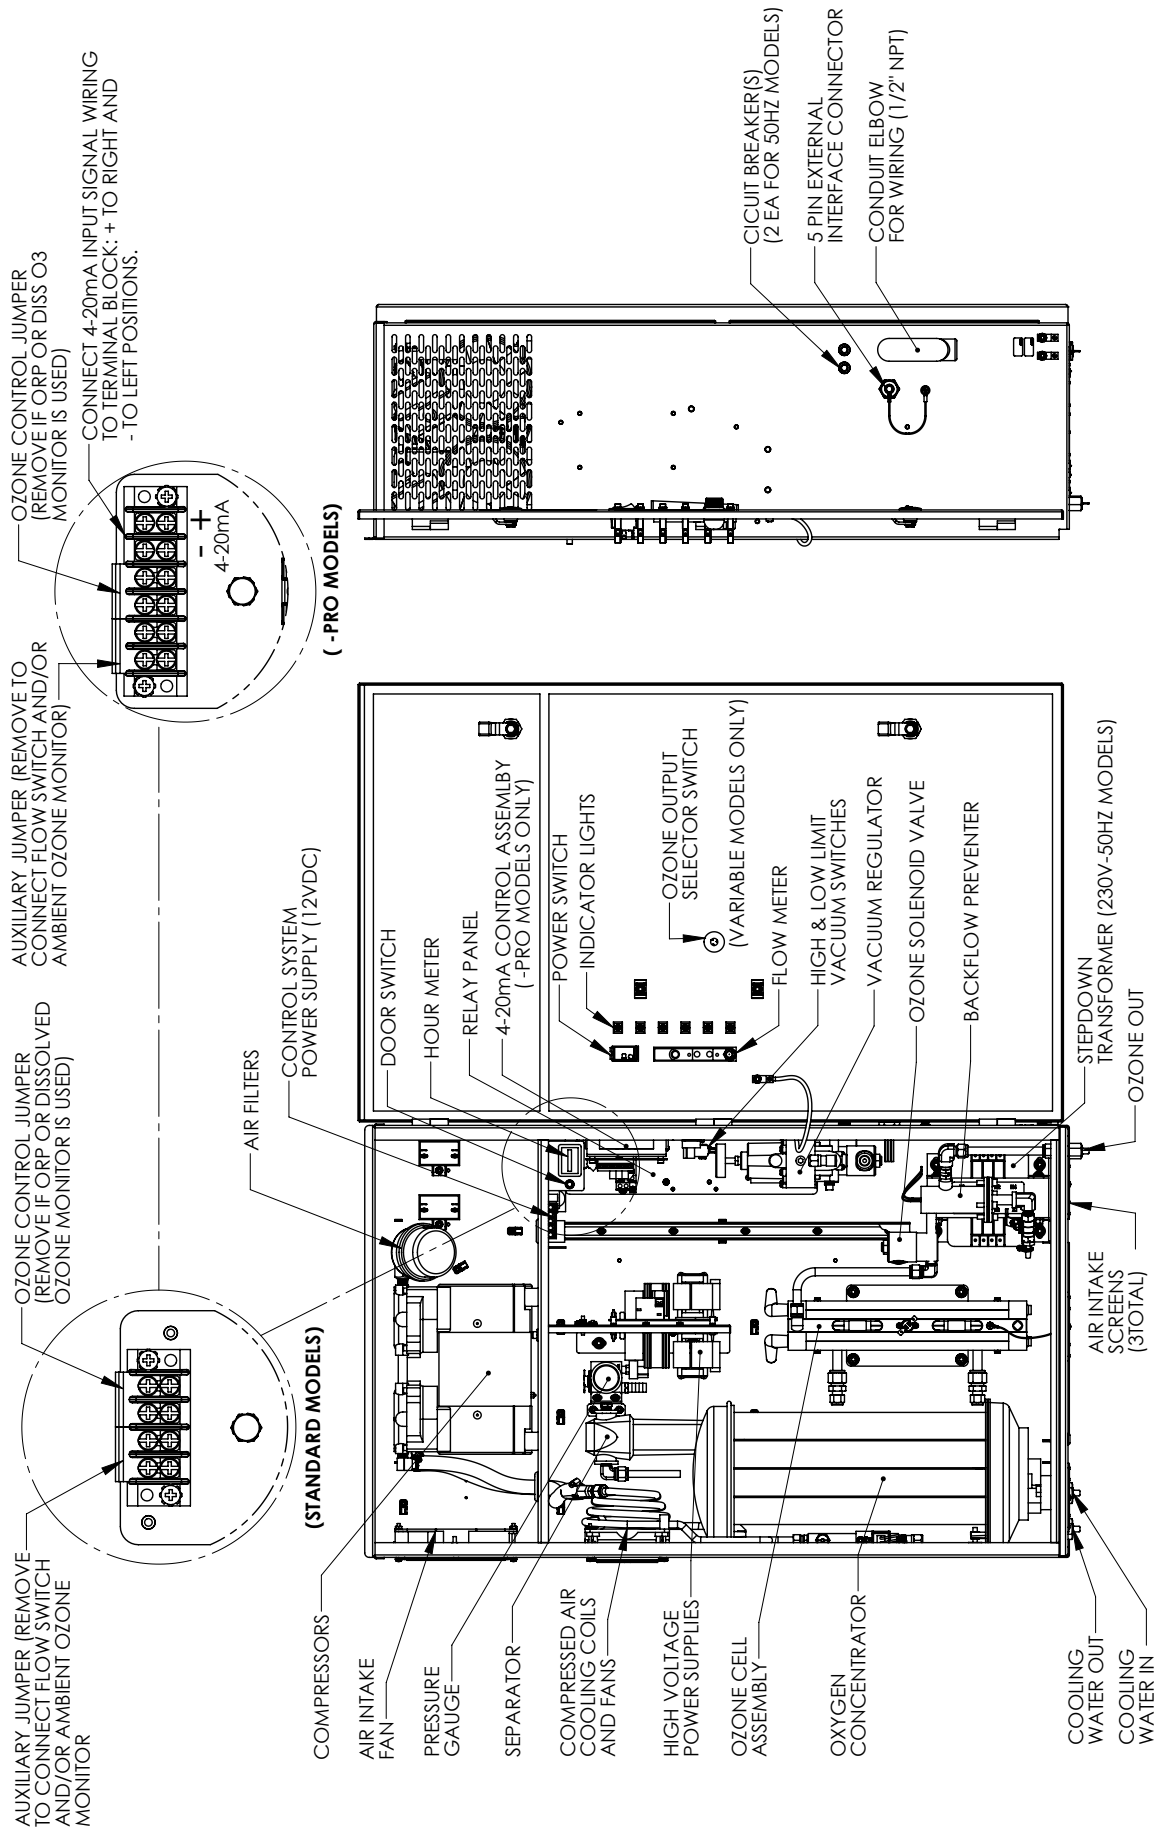

Figure 3: Component Locations
Refer to Figure 3 for component locations.
4A-3. Internal Components (Refer to Figure 3)
15. **4-20mA Control (optional):** Standard 2-wire control system designed to accept a 4-20mA signal and proportionally scale ozone generator output (0-100%). The input is connected at terminal block one (TB1). **See Figure 3** for more detail. Note: the unit will not produce ozone without an external 4-20mA control signal connected to the unit.